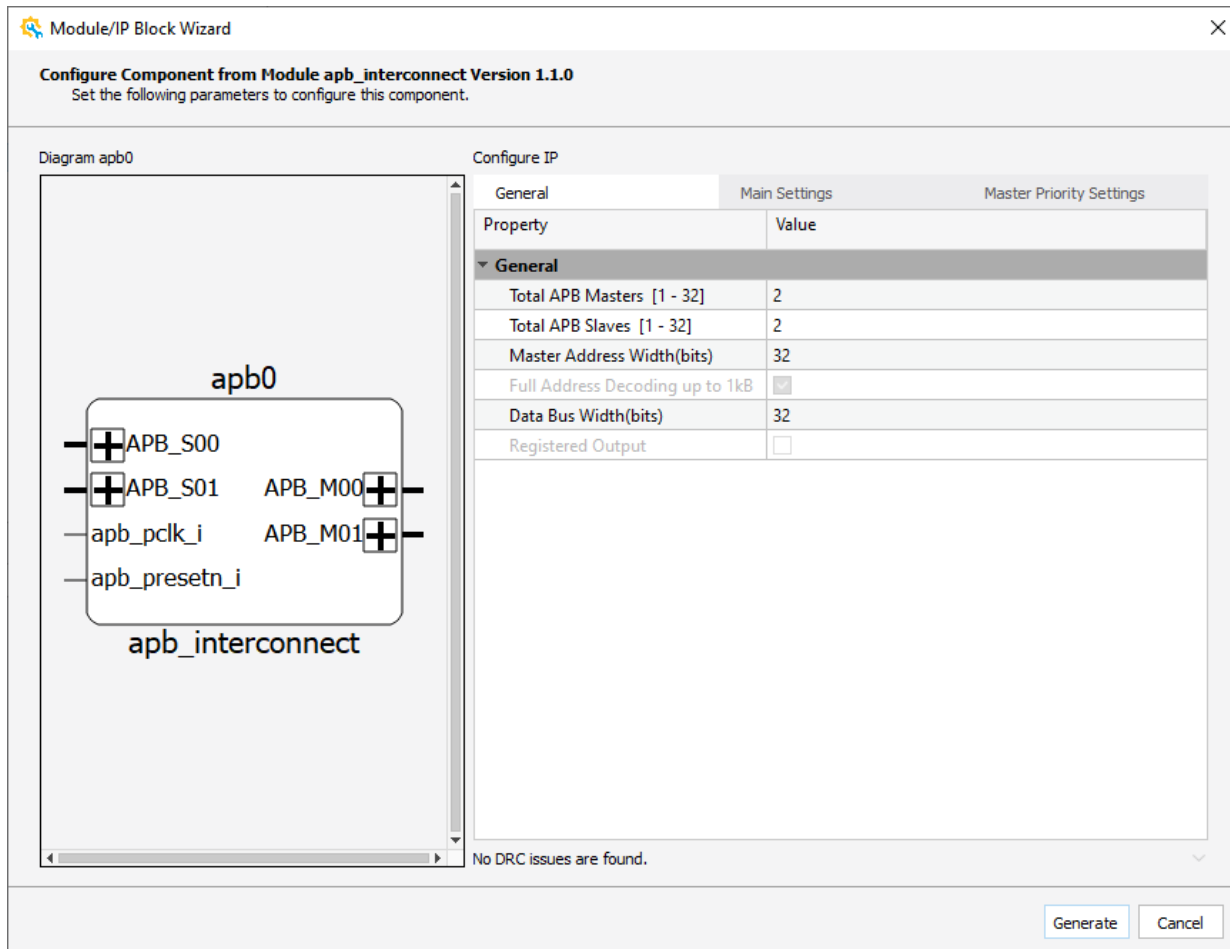

Figure 2.45. Module/IP Block Wizard – Configure Component
- a. Double-click the module, or right-click the module. Choose **Reconfig**. The Module/IP Block wizard (Figure 2.45) opens.